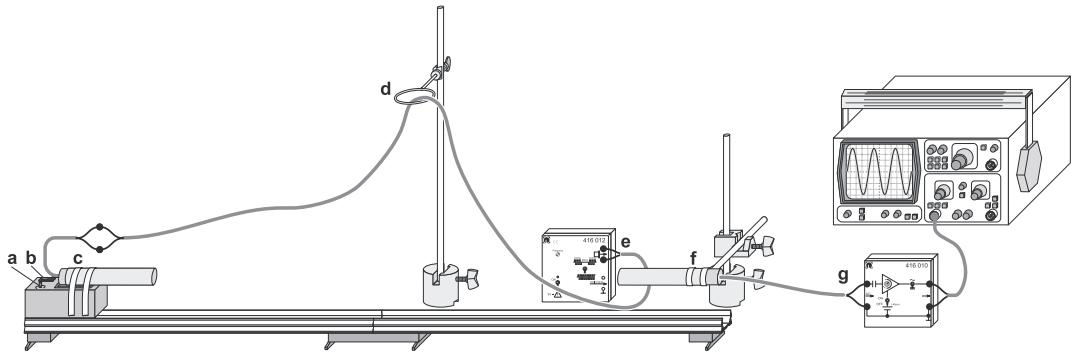

Figure 1.4: Setup for adjusting the resonance frequency
- Feed in the output of the AC amplifier for amplifying medium via the BNC measuring cable in the oscilloscope feed (see Fig. 1.4).